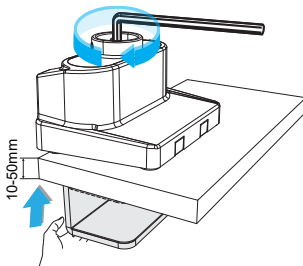

Figure 2
2. Slide the **Desk Clamp** onto the **Desk**. Use the **6mm Hex Key** to adjust the **Hex Screw** and secure the **Desk Clamp** in place. (Figure 2)